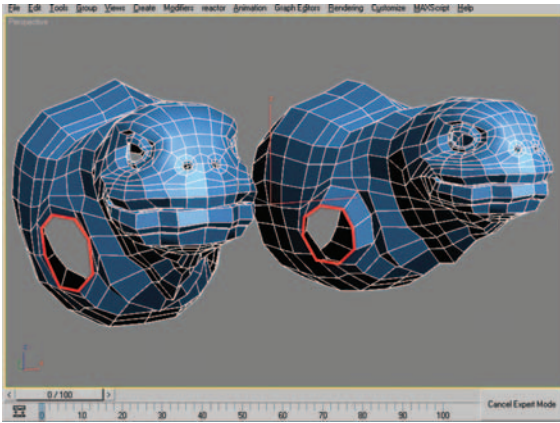

Figure 9.47 Border selection before and after moving and scaling.
8. Deactivate Soft Selection, and at the Border subobject level, select the leg opening. Move the border out to begin the process of creating the leg. Scale the border down (smaller) slightly to create a taper (Figure 9.47).